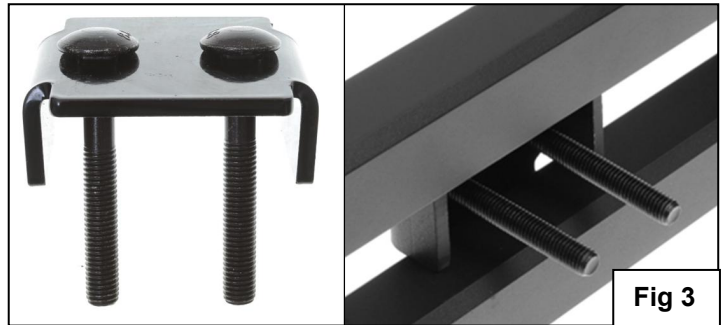

Fig 3
5. Select the Driver Side Bar. Slip (2) M10X1.5-75 Carriage Bolts into each 2-Hole Support Brackets ,and insert the 2-Hole support bracket into the Driver Side Bar.(Fig 3) . Carefully position the Bar onto the (4) Mounting Brackets. IMPORTANT: Do not slide the Bar on the Brackets or damage to the finish may result. Attach the Driver Side Bar to the Mounting Brackets with (2) M10 Hex Nuts,(2)10mm lock washers and (2)10mm flat washers, (Fig 4) . Do not tighten hardware.